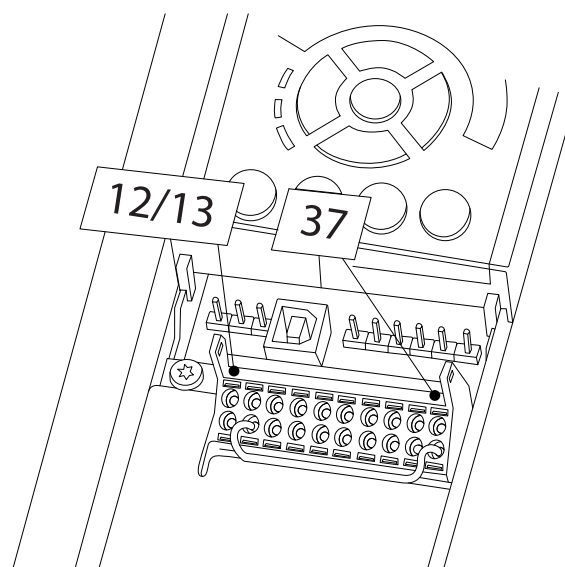

Figure 3.39 Jumper between Terminal 12/13 (24V) and 37
1. Remove the jumper wire between control terminals 37 and 12 or 13. Cutting or breaking the jumper is not sufficient to avoid short-circuiting. (See jumper on *Figure 3.39*.)